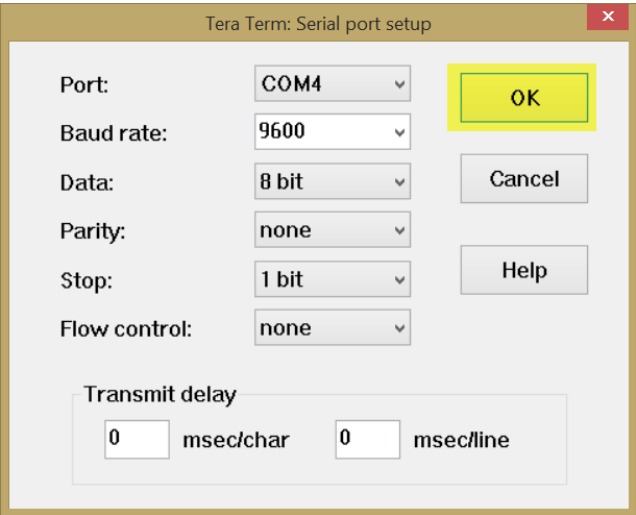

FIGURE E-6. Configuring the Serial Port
6. Select **Serial port** from the drop-down list in **Setup**. Change the port to reflect what you will be using to work with the SR50A/T. Leave the other settings at their default values. Click the **OK** button when finished (FIGURE E-6).